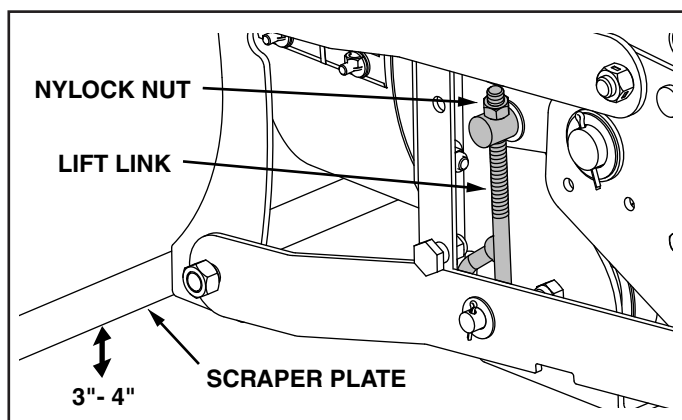

FIGURE 34 VIEWED FROM LEFT SIDE
STEP 36: (SEE FIGURE 34)
(Refer to figure 34 on page 17.)